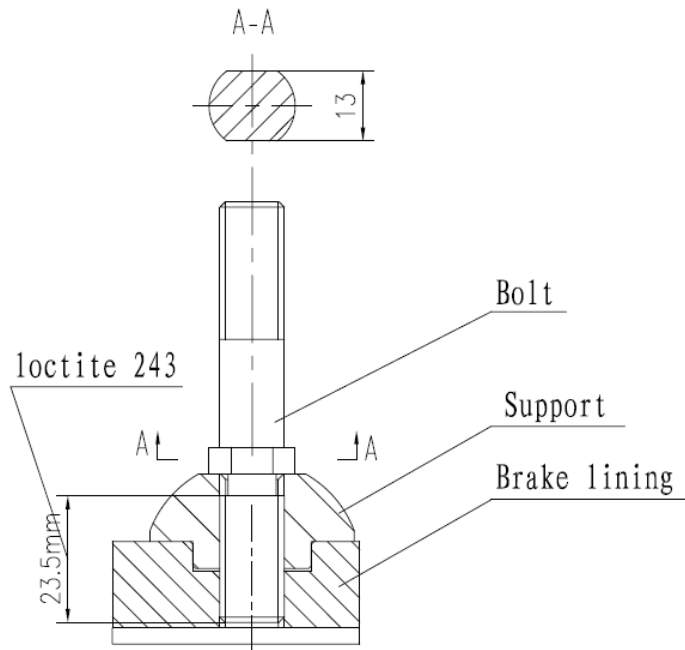

Figure 36 Emergency Brake Lining
3. Remove the bolt, separate Brake lining from the support. See figure36.
5. Apply Loctite 243 on bolt see figure 36 below. Tighten bolt to 60Nm (45 ft-lb).